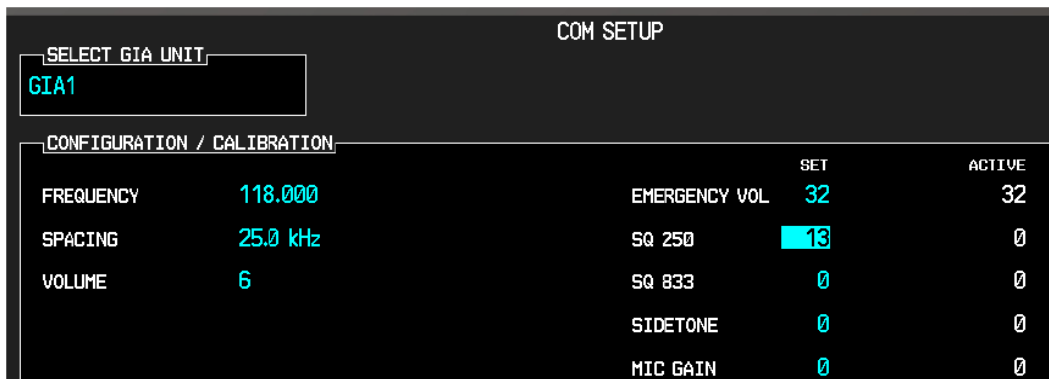

Figure 4-7. COM Setup Page SQ 250 Value
8. For 25.0 kHz operation, adjust the SQ 250 value. It can be set to any value between -100 and +100. The higher the number, the less signal is required to break squelch (see Figure 4-7).